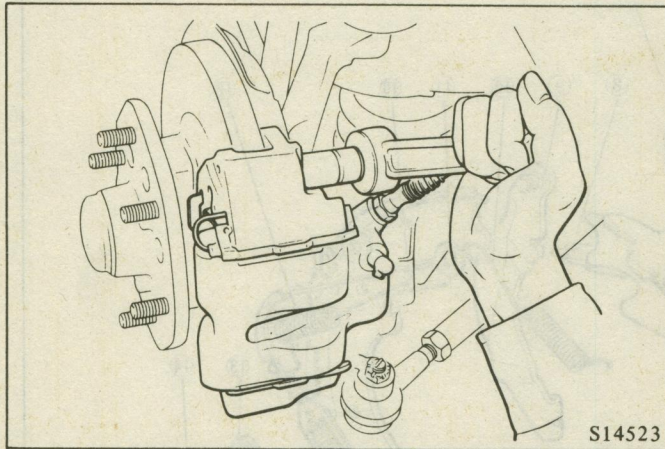

Fig. 26 Removing the Disc Brake Assembly
(1) Remove bolts attaching the caliper support to the knuckle, and hold the disc brake assembly in an appropriate position. (Fig. 26)